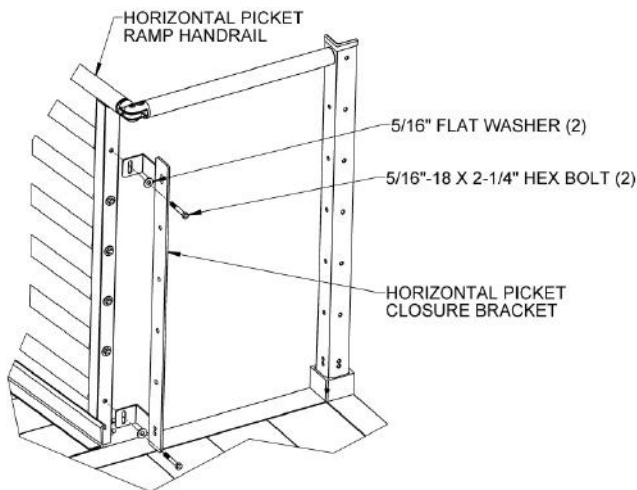

FIG. 5.18
- 5.6.7. The Horizontal Picket closure includes a special bracket which is attached to the ramp handrail post. If the ramp handrail has Horizontal or Vertical Pickets, remove the 5/16"-18 x 2-1/4" hex bolt and 5/16" flat washer attaching the upper and lower rail then reinstall through the slots in the horizontal picket closure bracket as shown in FIG 5.18. If the ramp handrail is a Two-Line or Single-Line handrail, use 5/16"-18 nuts to attach the bracket in the same manner (FIG 5.15). Orient the bracket toward the platform post and align the holes in the bracket with the holes in the platform post as closely as possible then tighten the fasteners lightly (enough to hold the bracket in place but still allow movement). If the ramp is centered a second Horizontal Picket closure is needed and is installed in the same manner described below.